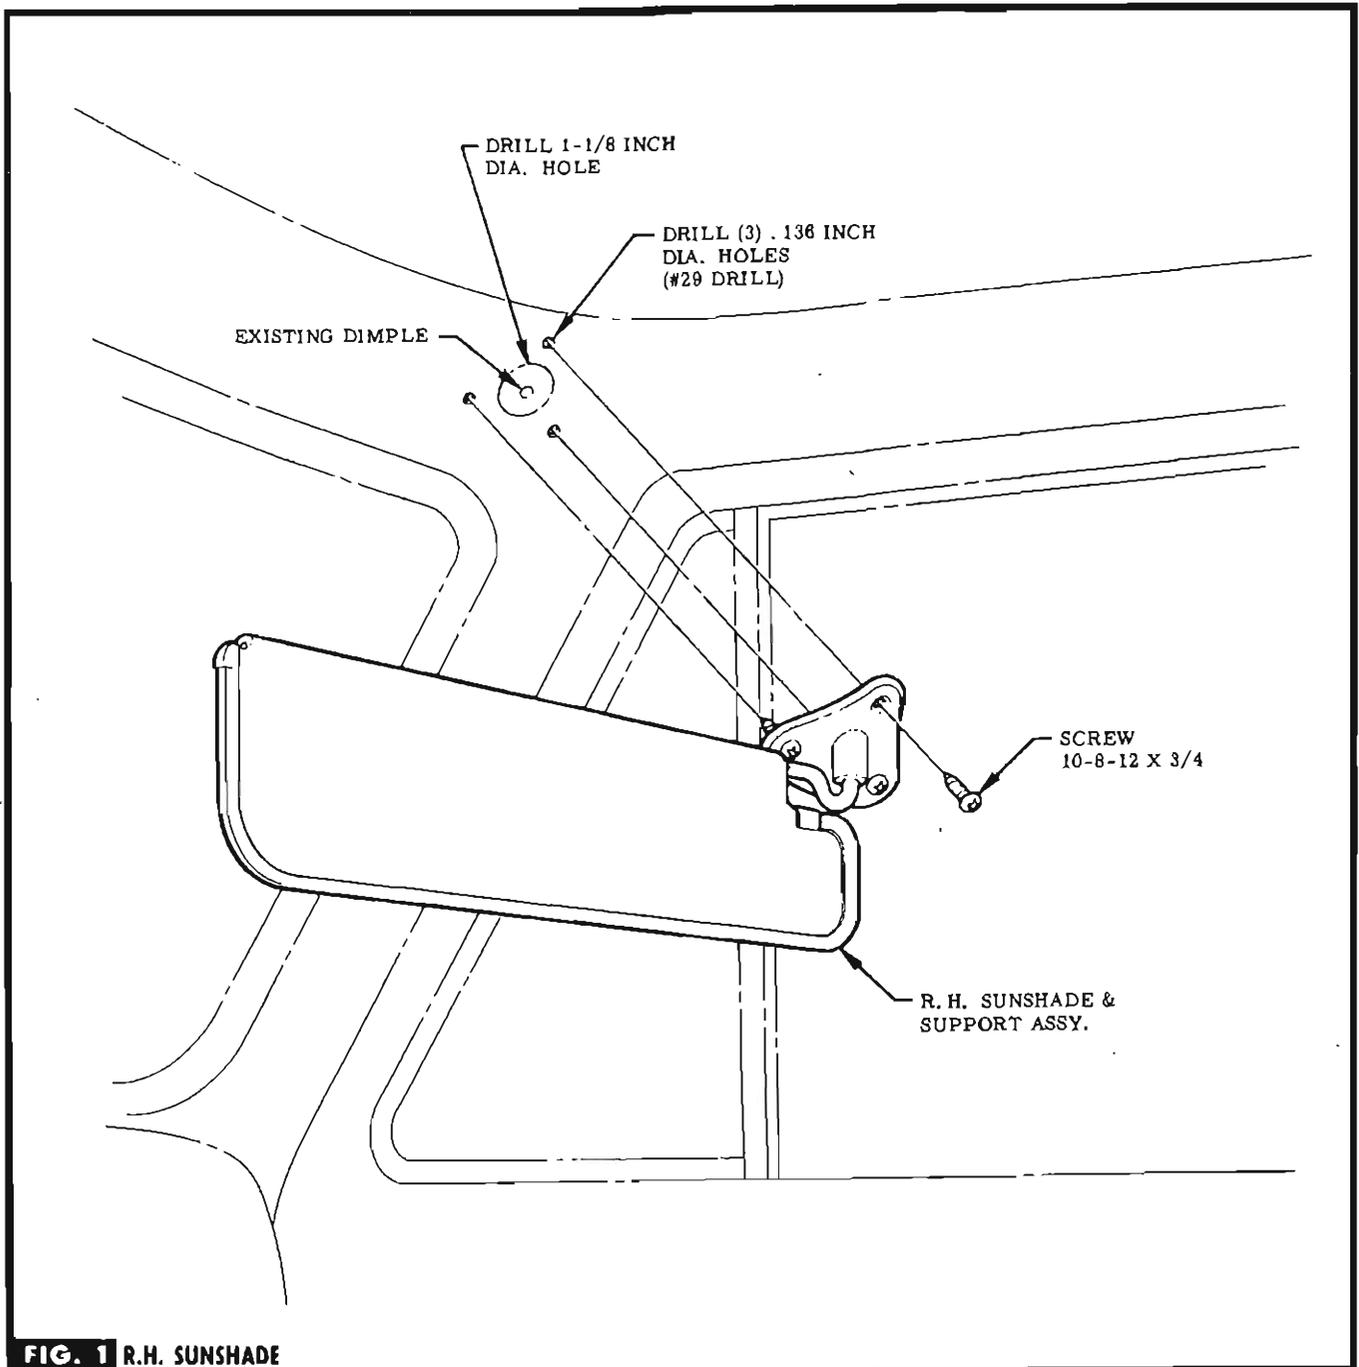

FIG. 1 R.H. SUNSHADE
STEP 1 LOCATE EXISTING DIMPLE & DRILL LARGE HOLE IN TRIM PANEL. SEE FIG. 1.